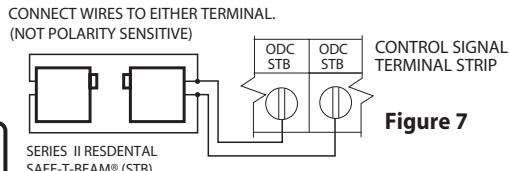

Figure 7
- Monitored SERIES II (STB) photocells (P/N OPAKPE.S) and Residential Safe-T-Beam® Monitored Photocells from Overhead Door® (P/N 37221R & 38176R.S). **Fig. 7.** Wiring to these photocells can be connected to either terminal (they are not polarity sensitive.) (**Troubleshooting in Section 8**)